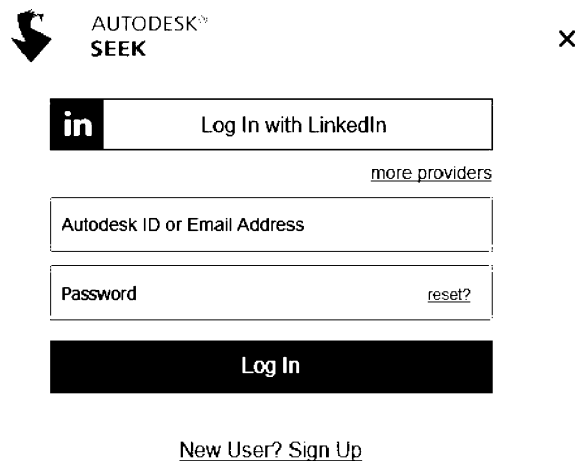

FIGURE 3-4.4 Sign in to SEEK using Autodesk account
- If you wish to proceed, you need to sign in using your Autodesk account (Figure 3-4.4).